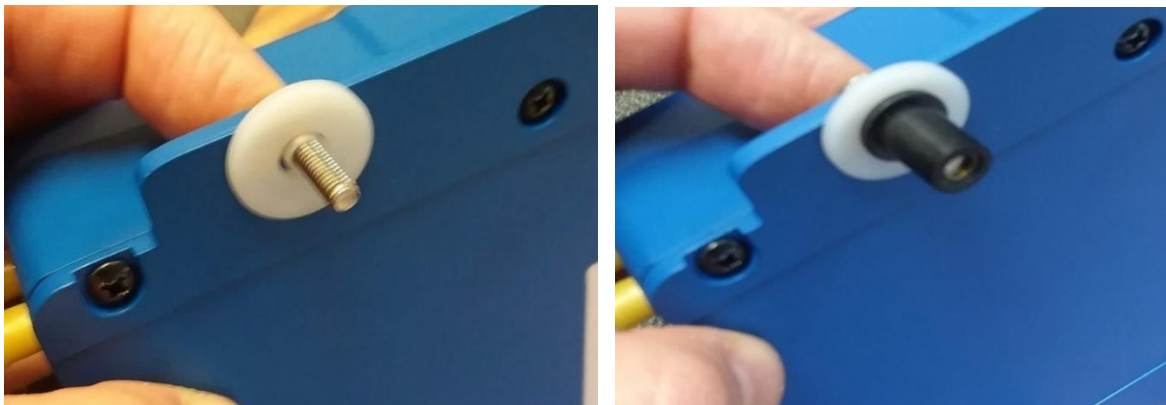

FIG 2.2
4. On bottom side of ECU flange, install a large nylon washer and a rubber well nut on each fastener. *See Figure 2.2*